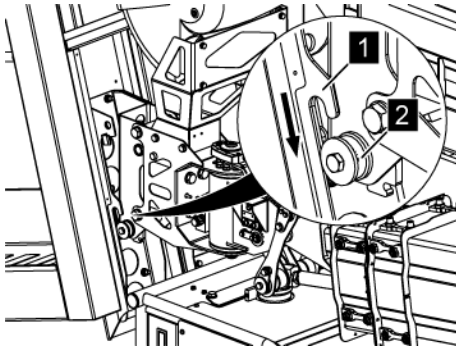

Fig. 156: Inserting the working basket
1. Working as a pair, insert the working basket (Fig. 156/1) into the holder (Fig. 156/2) and push it into the working basket mount.